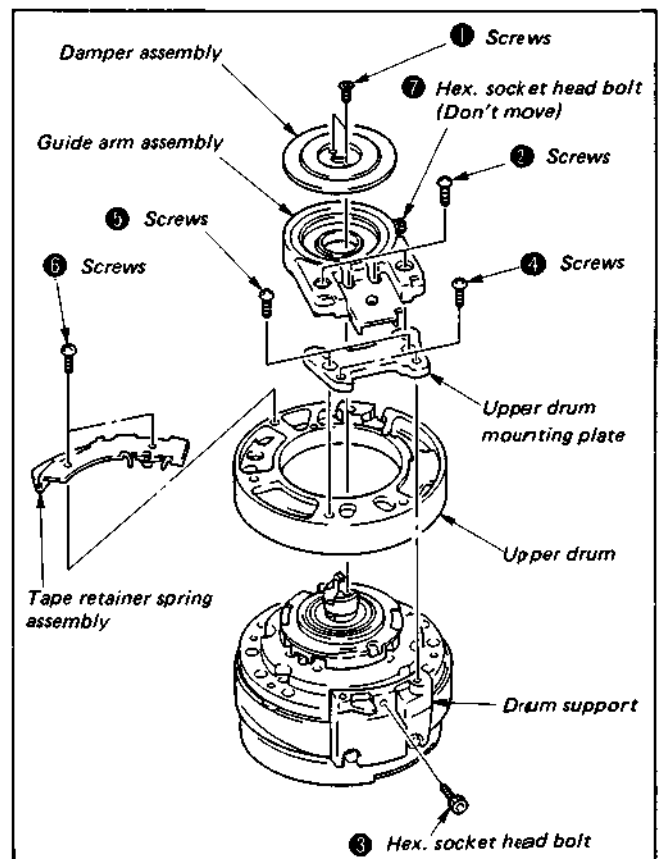

Fig. 3-8 How to remove upper drum
3-3-1. How to Remove Upper Drum (See Fig. 3-8)
3-3-2. How to Refit Upper Drum (See Fig. 3-8)
- 7) Insert the centering jig found in the box of the replacement upper drum between the guide arm assembly and the damper holder, and tighten screws ② firmly. Remove the centering jig, and check the clearance between the guide arm assembly and the damper holder for uniform distribution (See Fig. 3-8, 3-9).
- 8) Refit the damper assembly with two screws ① .